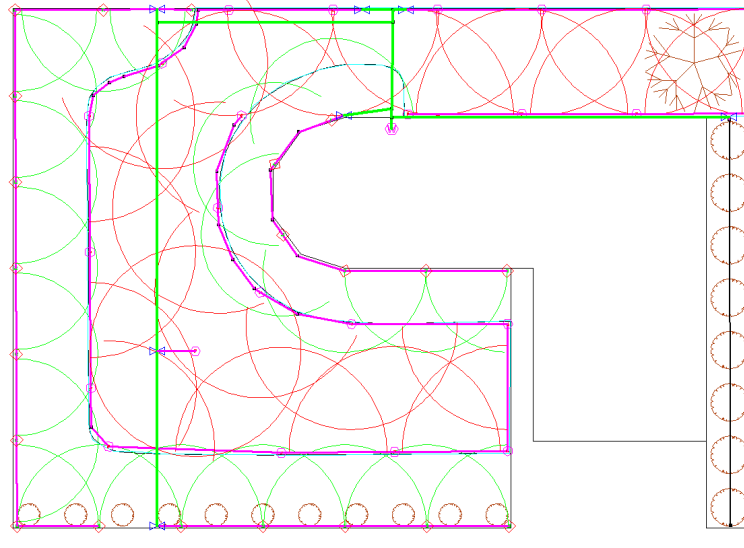

Figure 4-75
49. There is still an unconnected sprinkler in the middle of the lawn. Due to the water limitation it cannot be attached to any of the other zones. Place a valve on the mainline pipe across from the sprinkler and draw a zone pipe from the valve to connect to the sprinkler. Your garden design should look like Figure 4-75.